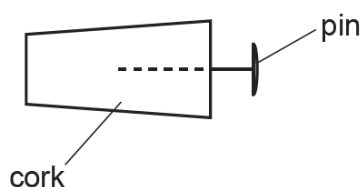

Fig. 1.1
1. The pin should be inserted into the cork along its axis with approximately 1 cm protruding as shown in Fig. 1.1.